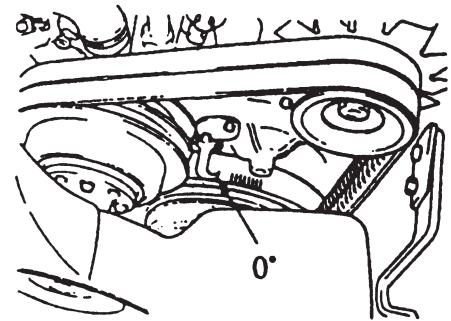

Fig. 1-9
(1) Counter-clockwise rotating crank shaft as shown in Figure 1-9 of 0° the location of arrows, so that the rocker between exhaust door and entered door of a cylinder or six-cylinder form the gap.